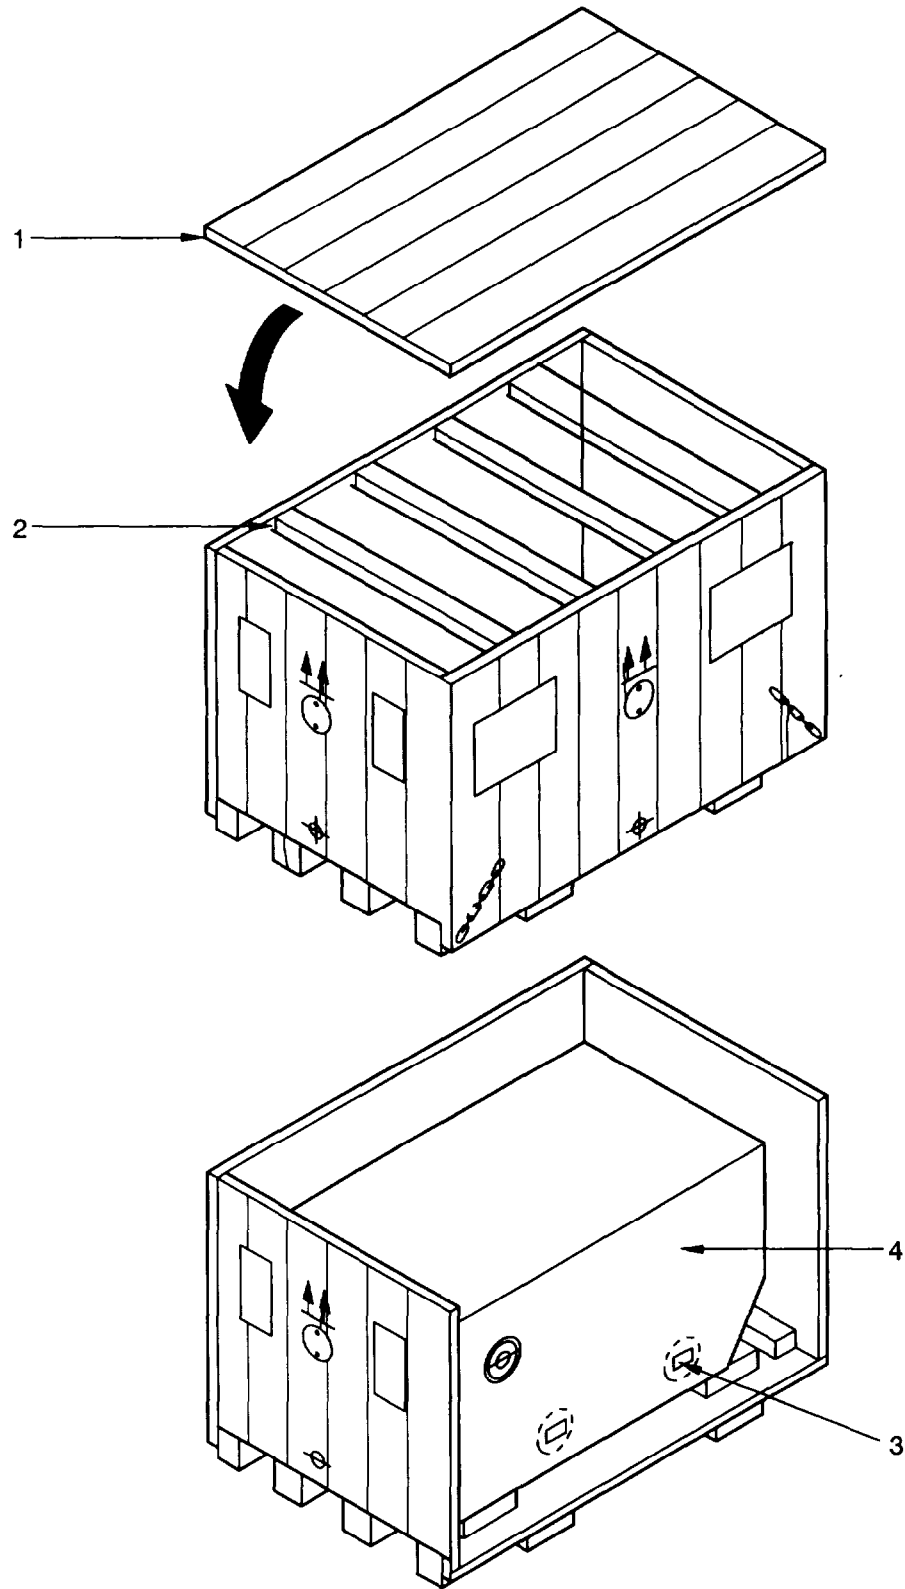

Figure 4-2 Unpacking the Container.
- a. Remove cover (1, figure 4-2) and square wooden members (2).